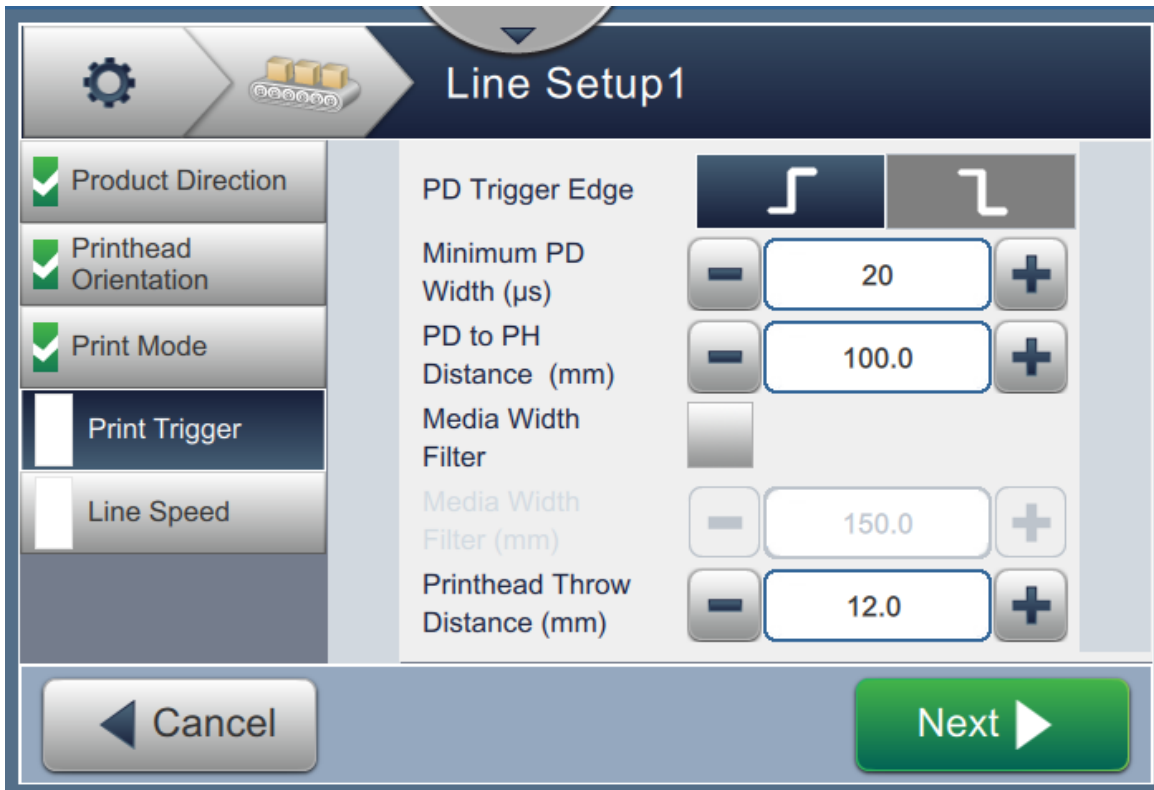

Figure 6-32: Line Setup - Print Trigger
1. Touch the option *Print Trigger* in the Line Setup Setting screen as shown in Figure 6-32.